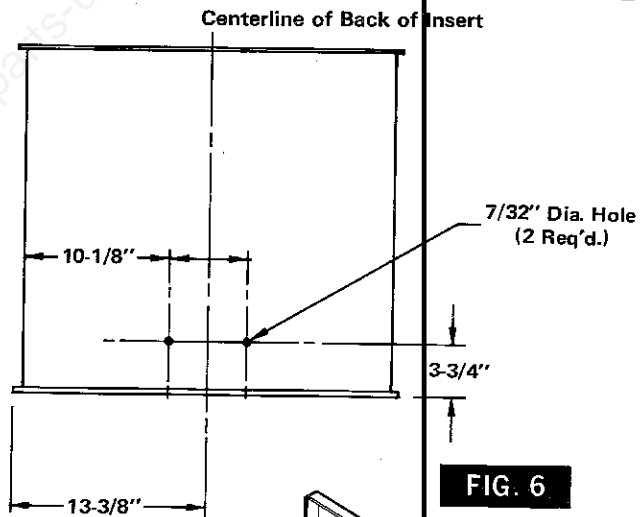

FIG. 6
1. Drill (2) holes in the back of the insert cabinet with a 7/32" diameter drill bit at the locations shown in Fig. 6.